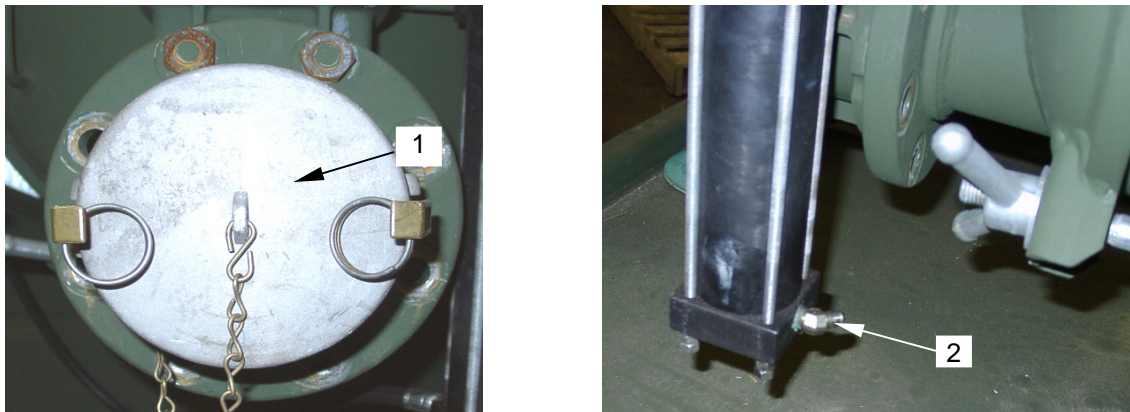

Figure 8. Installing Dust Cap/Hose and Hydraulic Line
- 20. Install dust cap (**figure 8, item 1**) or 4-inch hose as appropriate.
- 21. Re-connect the drain valve hydraulic line to the fitting (**figure 8, item 2**) on the piston valve.